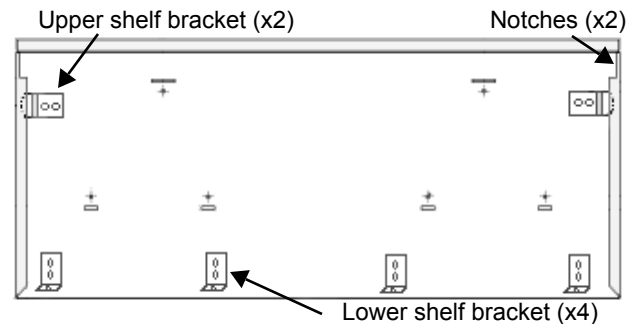

Figure 23: 48" Back of Wall Plate
2. Mount the (2) top shelf brackets and the (3) lower shelf brackets at the locations outlined on the templates. Secure with (10) 1" (25.4mm) screws provided.
4. Insert (3) U-Nuts onto the (3) lower shelf brackets.
5. Install the wall plate by setting the corner notches (back of wall plate) atop the (2) top shelf brackets. Slide the shelf upwards until the bottom engages with the (3) lower brackets (*Figure 23*).